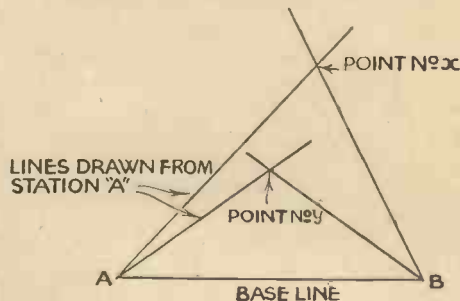

Fig. 4.—Working out the included angles.
- (1) Measuring the included angle (see Fig. 4) by means of a theodolite.
- (2) Measuring the bearing of each line with a compass.
Having obtained the bearings of all the lines, we can check them by working out the included angles (see Fig. 4), as follows: